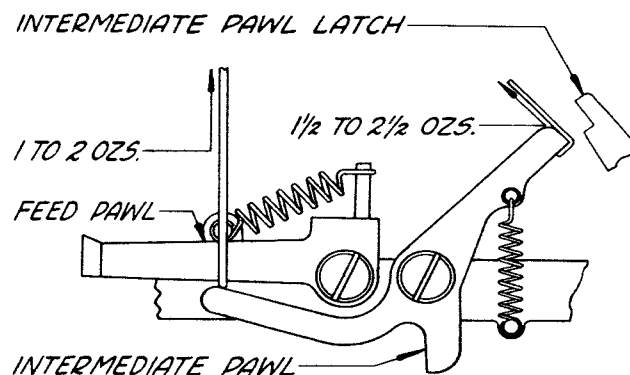

Figure 24
2.51 Intermediate-pawl Spring: With the spacer-bail camroller on the high part of its cam and with the feed pawl and intermediate-pawl latch held away from the intermediate pawl, hook a scale over the latching end of the intermediate pawl, and pull at right angles to the pawl. A pull of minimum 1-1/2 ounces, maximum 2-1/2 ounces, should be required to start the pawl moving. When the perforator has the improved spacer-rod mechanism, the pull should be minimum 3 ounces, maximum 5 ounces. See Figure 24.